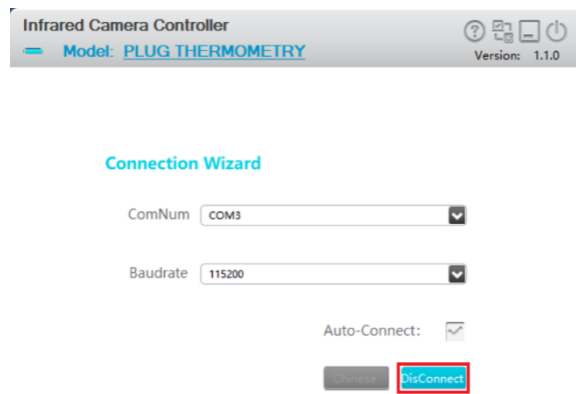
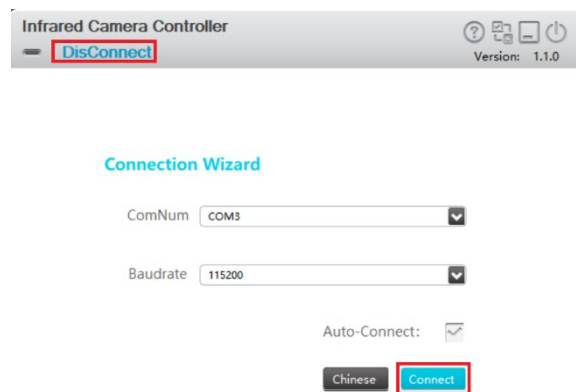

Figure 4-15 Module connection
Figure 4-16 Module disconnection
6. Click the button "Connect" to connect the module, as shown in Figure 4-15. If the module is currently connected, click the icon  to switch to the connection wizard interface, and then click "Disconnect" to disconnect the module. The upper left corner shows the current connection status "DisConnect", as shown in Figure 4-16.